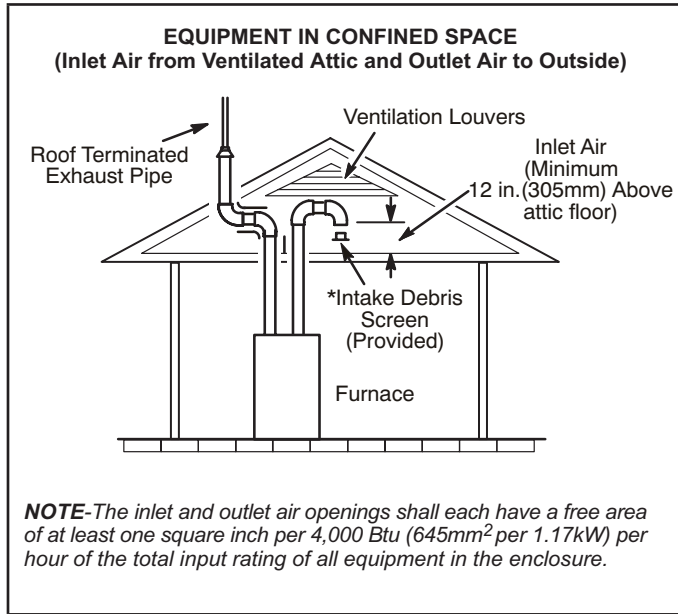
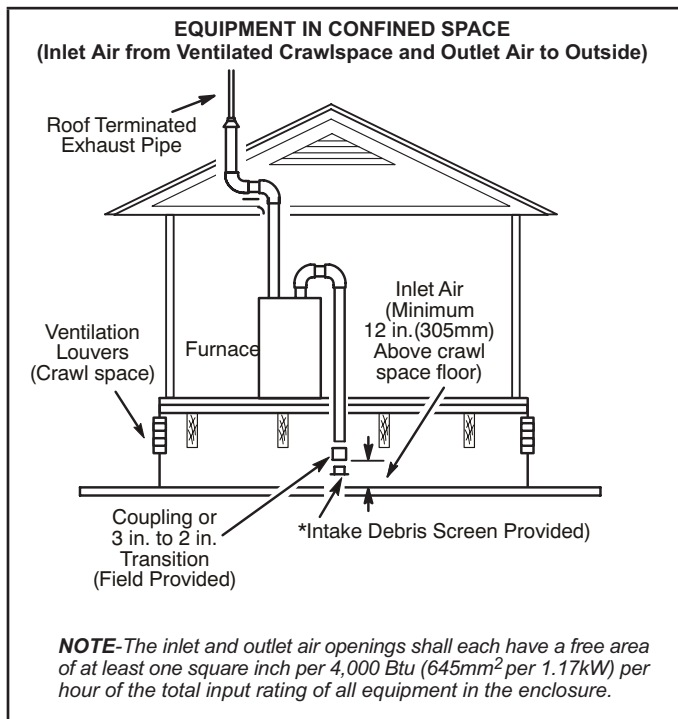

FIGURE 27
FIGURE 28
- 2 -If intake air is drawn from a ventilated attic (FIGURE 27) or ventilated crawlspace (FIGURE 28) the exhaust vent length must not exceed those listed in table 25. If 3" diameter pipe is used, reduce to 2" diameter pipe at the termination point to accommodate the debris screen.